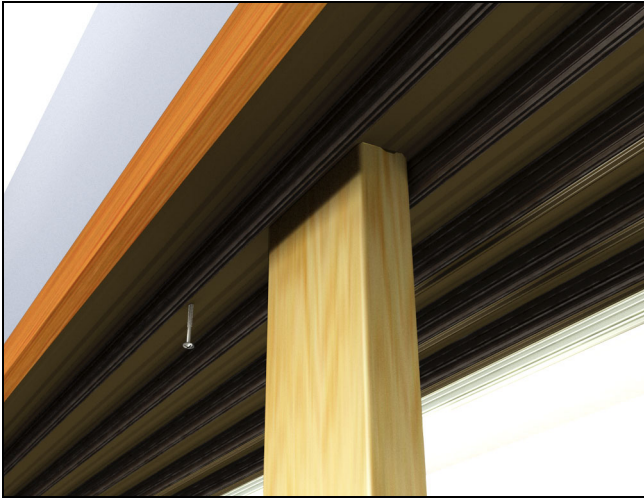

Figure 46
4. If necessary, shim head jamb so that the story pole stays in light contact with the sill and head jamb frame. Fasten with #8 x 3" black installation screws. See figure 46.